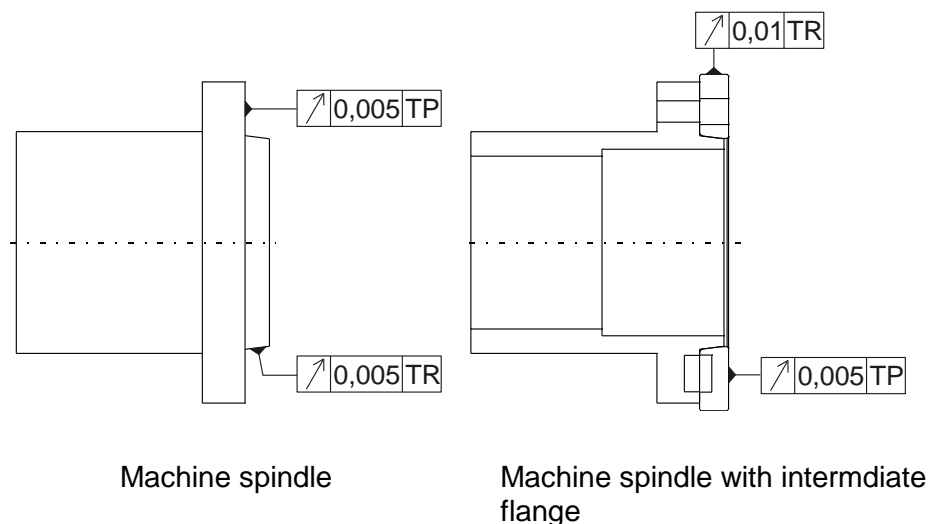

Fig. 3-2: Checking the true-running
- Step 2** Bring the draw pipe (2) in the most forward position and screw the adaptor (3) into the draw pipe after the thread has preventively been cleaned with copper paste to avoid rusting or galling
- Step 3** Mount the intermediate flange (4) on the spindle (in case the chuck is not directly screwed onto the spindle) and check the true-running according to Fig. 3-2.
- Step 4** Remove the cover plate (1) from the chuck so that you can screw in the draw bolt (5) later on (see step 7).